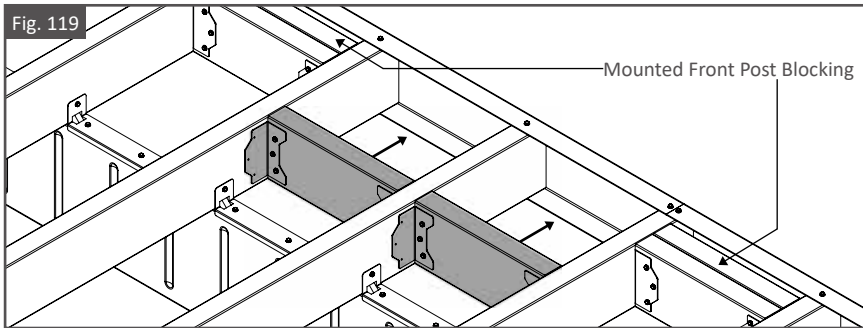

Fig. 120
5. Using Evolution Self-Drilling Screws, fasten the cut Joist assemblies onto the Infill joists. As shown in Fig. 120.